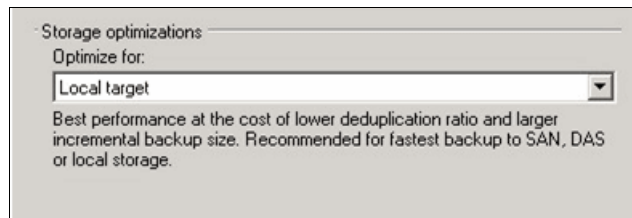

Figure 19-6 Setting data block size
5. Under Storage optimizations (Optimize for), select **Local target** (Figure 19-6) for backup to SAN, direct-attached storage (DAS), or local storage. Click **OK**.